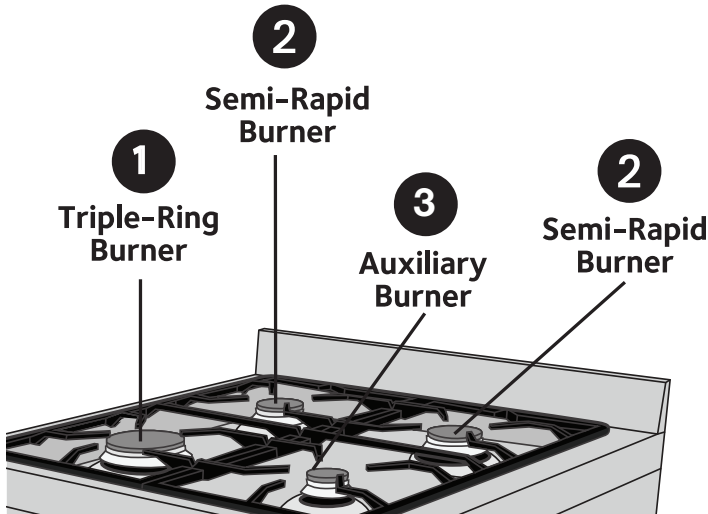

Figure 25
- 1** See below for Location of the Burners, as well as the illustrations of the burner caps and heads. (See Figure 25)